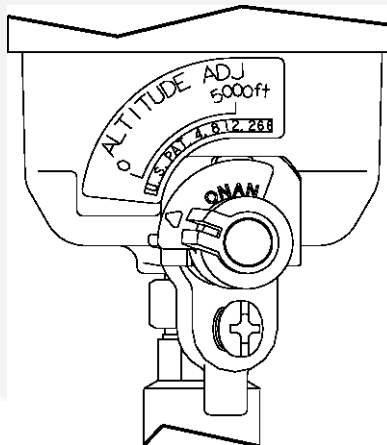

FIGURE 8. ALTITUDE ADJUST KNOB (SERIES HGJAE GASOLINE ONLY)
4. If so equipped, reset the carburetor for altitude (Figure 8).
5. If so equipped, reset the carburetor for altitude (Figure 8).
Series HGJAE Only - For best fuel economy and genset operation between 0 and 5,000 feet, reset the carburetor for the current altitude (Figure 8). Altitude may be found on road maps and road signs. For the effect of altitude on maximum power, see LOADING THE GENSET (Page Section 3.8).